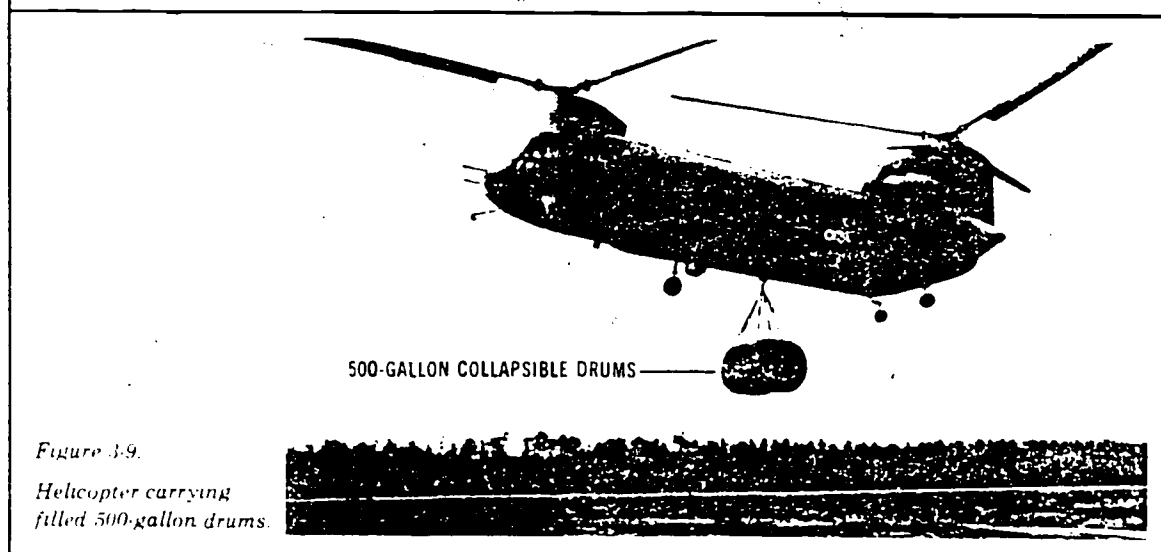

Figure 3-9.
□ **Carried by aircraft.** Filled drums can be dropped by parachute, delivered by aircraft sling load (fig 3-9), or transported as air cargo. The drums must not be free-fall airdropped. Rigging, loading, and dropping procedures in TM 10-500-64 and TM 55-450-11 must be followed.